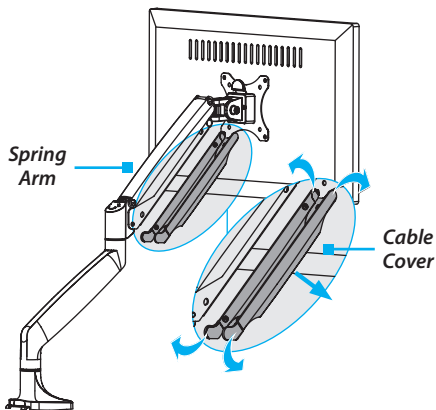

Figure 17
2. On the upper portion of the **Spring Arm**, pull the ends of the **Cable Cover** away from the **Spring Arm**, and remove the **Cable Cover** from the **Spring Arm**. (Figure 17)